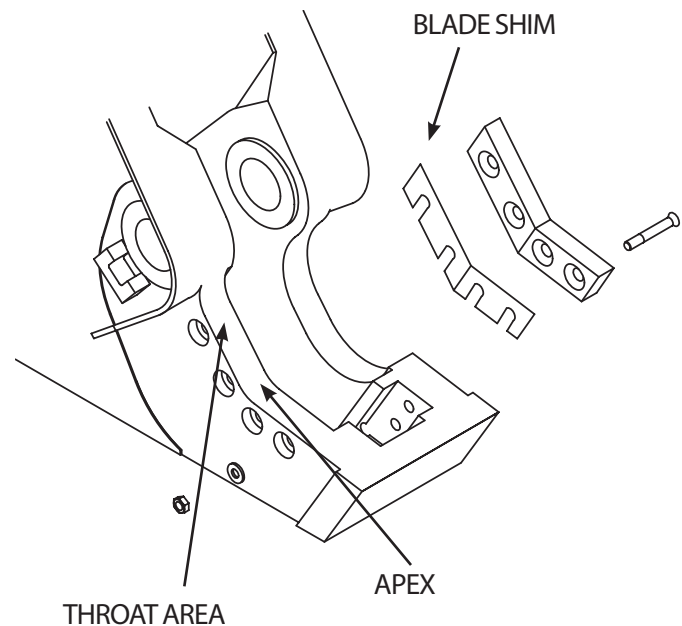

FIGURE 5-5
2. Cycle the shear closed so the secondary blades start to bypass at the apex (see figure 5-5). Check the gap at this point using a feeler gauge and record this measurement also. If the blades have been rotated properly, and at the right intervals, the gap in the secondary blades should be fairly even or the entire span of the blades.